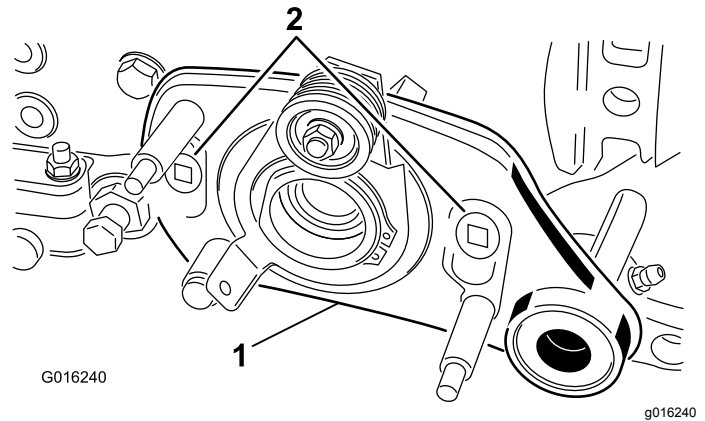

Figure 10
7. Position the groomer-drive-plate assembly to the cutting-unit frame and secure it to the frame with 2 shoulder bolts (Figure 10). Ensure that the drive plate rotates freely after installation.